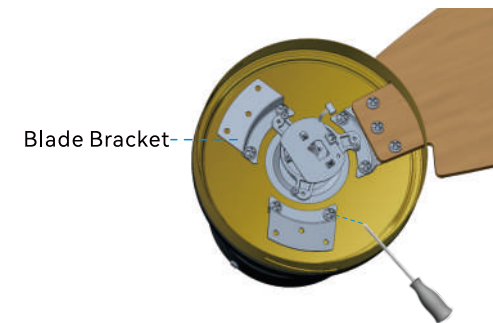

Fig 6.1
6.1 Locate 9 blade attachment screws and washers in the hardware pack. Slide the blade through the lamp cover and align three blade holes with the screw holes of the blade bracket and fasten the blades with the screws and washers as shown in Fig 6.1.